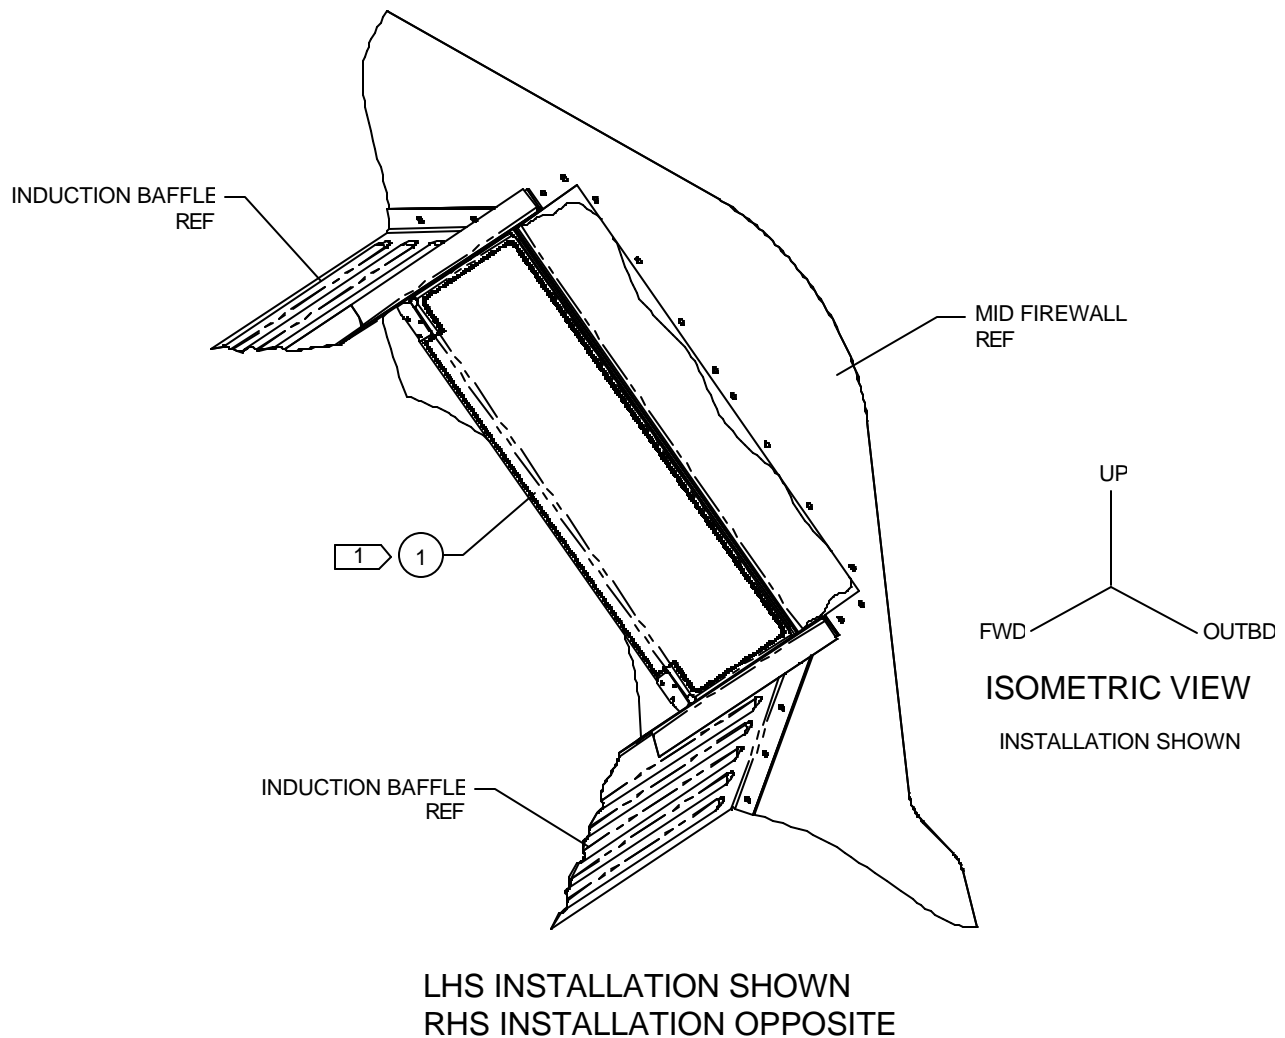

**Figure 1**
3. Temporarily remove the existing hardware common to the existing Screen. Reference Figure 1 and Step 6.
4. Remove and discard the existing Screen. Reference Figures 1 & 2.
5. Prepare the Induction Baffle and Mid Firewall by removing any residual gasket material, dirt, etc. and wipe the mating surfaces clean. Reference Figure 1.
6. Install the Screen, Assy (Item 1) in the Induction Baffle using the existing hardware as shown. Reference Figures 1 & 2 and Step 3.